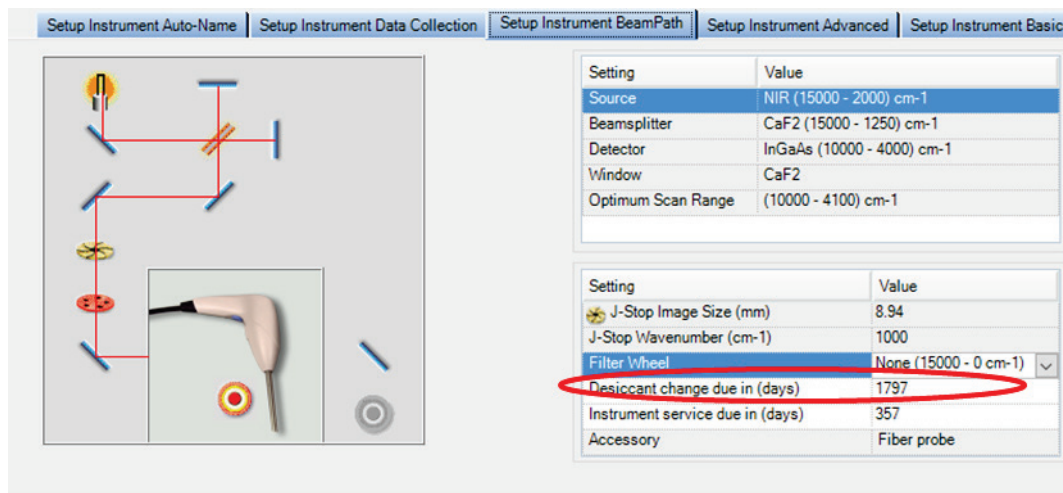

Figure 84 Setup Instrument BeamPath tab in Spectrum
5. Locate the sample compartment purge connector shown in Figure 84.